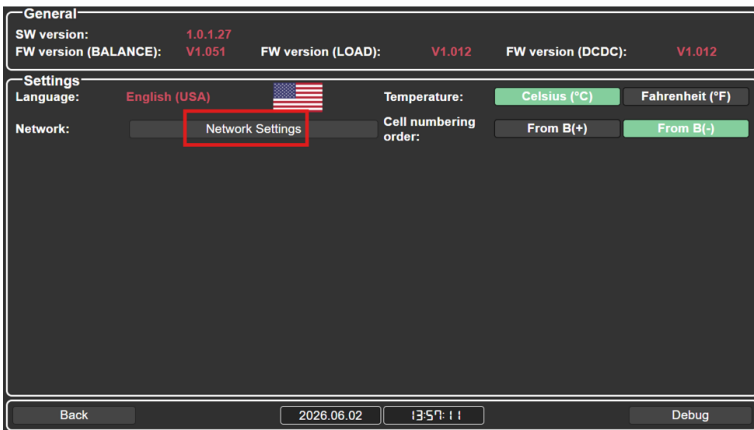

Figure 31
2. In the window that opens, go to the **Network Setting** menu (see Fig. 31).